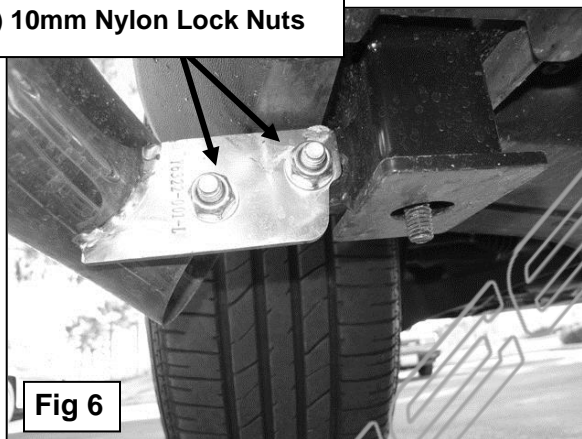

Fig 6
7. Select the Driver Sidebar and loosely attach it to the Mounting Brackets with the included (4) 10mm x 30mm Hex Bolts, (8) 10mm Flat Washers and (4) 10mm Nylon Lock Nuts, (**Figure 6**).